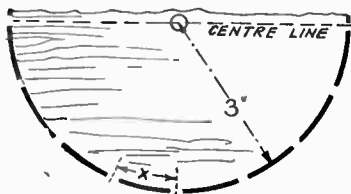

Fig. 2
suggested, and pencil outlines of the apertures made in pencil direct from the actual cylinder slots. When the paper strip is removed, there will be sixteen spaces on it, and it is in the centres of each of these that the figures are drawn in ink and colour. On the half plan given in Fig. 2 a section of the cylinder is shown, and the spacing of the slots. Each picture, therefore, is spaced at (X) centres, but this will automatically come right when the above procedure is carefully followed. Various subjects will occur to the worker to introduce on to his 'strips'. There can be a series of